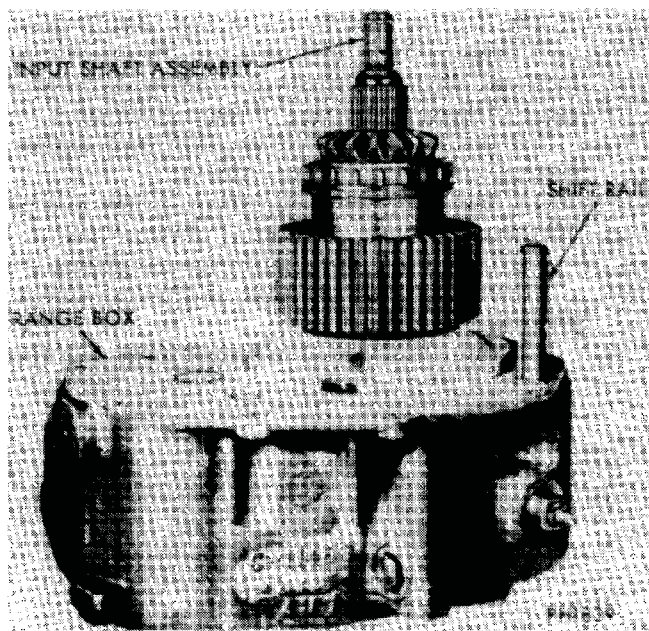
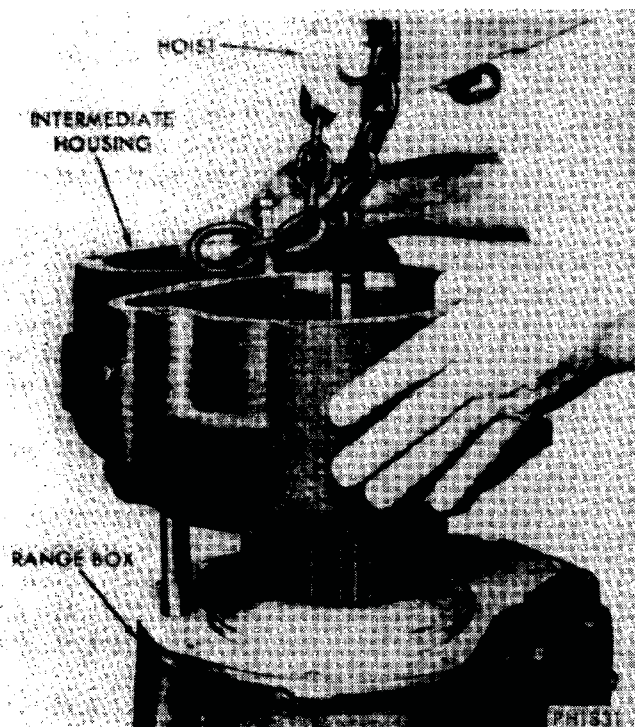

Fig. 25—Shift Rail in Installed Position
Fig. 26—Installing Intermediate Housing on Range Box
- (6) Install drive chain in chain housing, positioning the chain around outer wall of housing.
- (7) Install chain housing on range box (Fig. 25), engaging shift rail channel of housing to shift rail. Position chain on input drive sprocket.
(8) Install front output sprocket in case, engaging drive chain to sprocket. Rotate clutch drive gear to aid in positioning chain on drive sprocket.
(9) Install shift fork on clutch assembly and shift rail, then push clutch assembly fully into drive sprocket. Install roll pin retaining shift fork to shift rail.
(10) Install outer retainer ring on front output shaft bearing and install bearing into housing bore.
(11) Install front output shaft bearing retainer, gasket and retaining bolts.
(12) Install front output shaft seal, yoke, dust shield, rubber seal, washer and retaining nut. Tap dust shield back into place after installing bolts in flange.
(13) Install front output shaft rear bearing retainer, gasket and retaining bolts. **If rear bearing was removed, position new bearing to outside face of cover and press into cover until flush with opening.**
(14) Install differential carrier assembly on input shaft. (Carrier bolt head toward rear of shaft.)
(15) Install rear output housing assembly, gasket and retaining bolts (Load bearings in pinion shaft).
(16) With yoke nut at least .06 loose, push or tap end of rear output shaft into unit. This will put differential into close mesh for next check. Check rear output shaft end play as follows:
- (a) Install dial indicator on rear housing (Fig. 26).